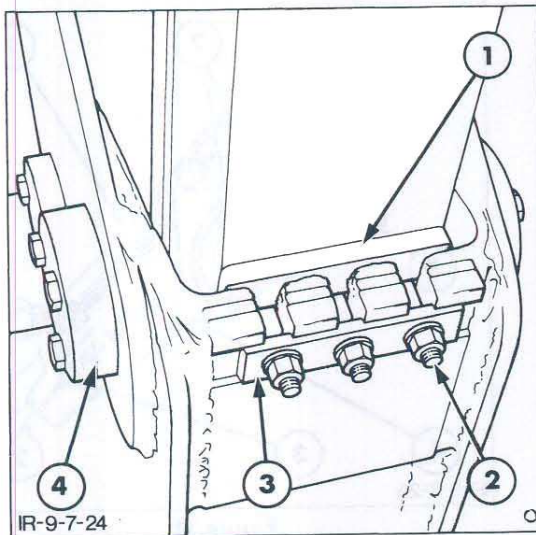

Figure 35
1. Loosen the external wear plate nuts, Figure 35, from upper and lower sides of the dipstick and remove the wear plates.
4. Inspect the wear plates on both the internal and external sections of the dipstick, for wear and replace where necessary. Refer to Figures 35 and 37.